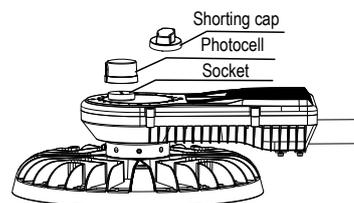

Figure 11
- When the photocell function is required, photocell should be installed on the back of lamp. When it's not required, shorting cap should be installed on the back of lamp. (Figure 11)